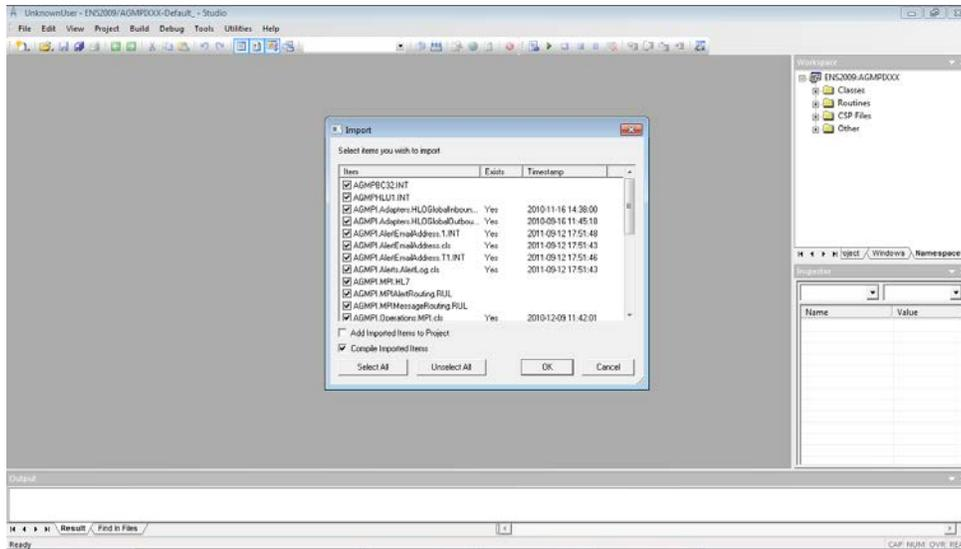

Figure 4-24: Import dialog box
2. Select **ag\_0720.01.xml** and click **Open** to display the **Import** dialog box, as shown in Figure 4-24.